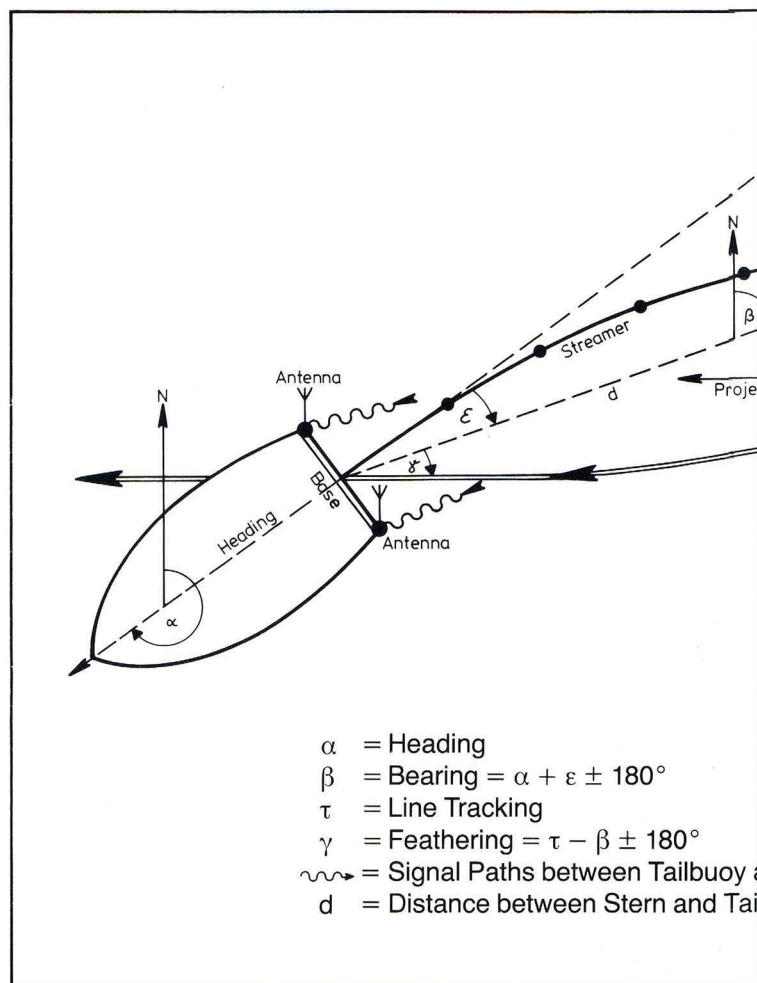

Fig. 1: Tailbuoy Positioning
- Tailbuoy positioning system PRAKLA-SEISMOS, type: PDF (fig. 1)